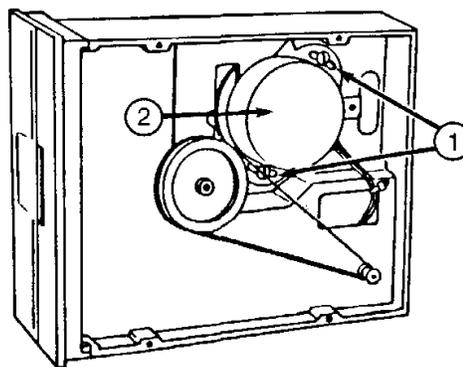

FIGURE 16
15. Slightly loosen the two mounting screws holding the stepper motor to the casting (Figure 16, #'s 1 and 2) by turning the screws counterclockwise just until the motor is barely loosened.